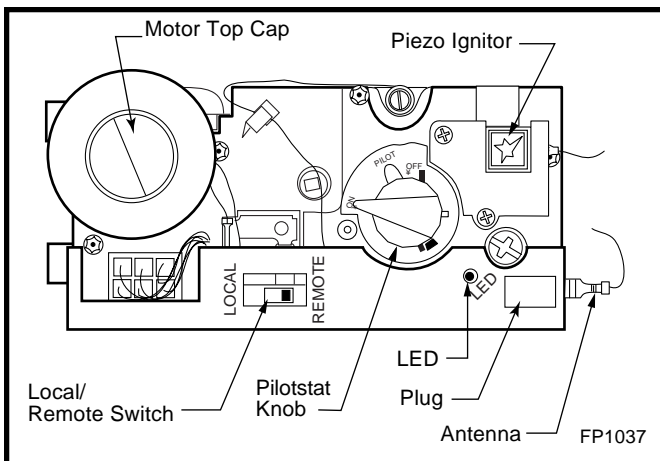

Fig. 63 Comfort control valve.
3. Remove and replace plug on lower right hand side of the valve; Red for LP and blue for NG. (Fig. 63)